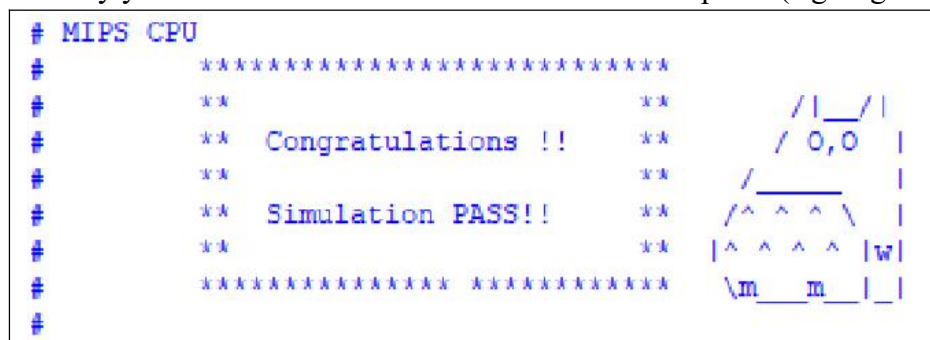

Figure 3. Snapshot of correct simulation
2. Verify your CPU with the benchmark and take a snapshot (e.g. Figure 3)